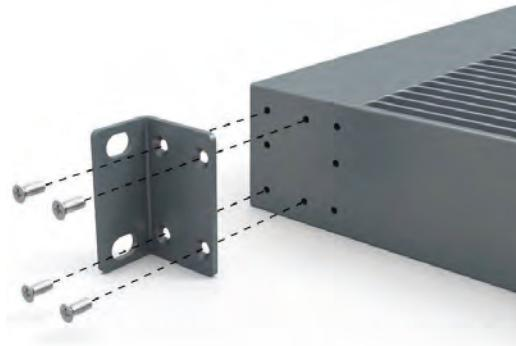

Fig. 8: Attaching a 19" mounting bracket
- Attach the 19" mounting brackets to the C-hub front, using 4 screws M3×16 per bracket and the Phillips screwdriver. Observe the orientation of the brackets shown in Fig. 8.